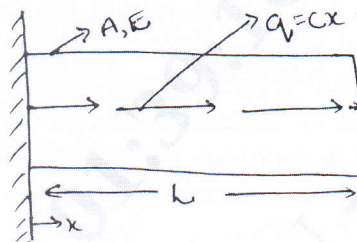

Fig.Q2(b)
- b. A bar of length  $L$ , cross sectional area  $A$  and modulus of elasticity  $E$ , is subjected to distributed axial load  $q = cx$ , where ' $C$ ' is a constant as shown in Fig.Q2(b). Determine the displacement of the bar at the end using Rayleigh – Ritz method.